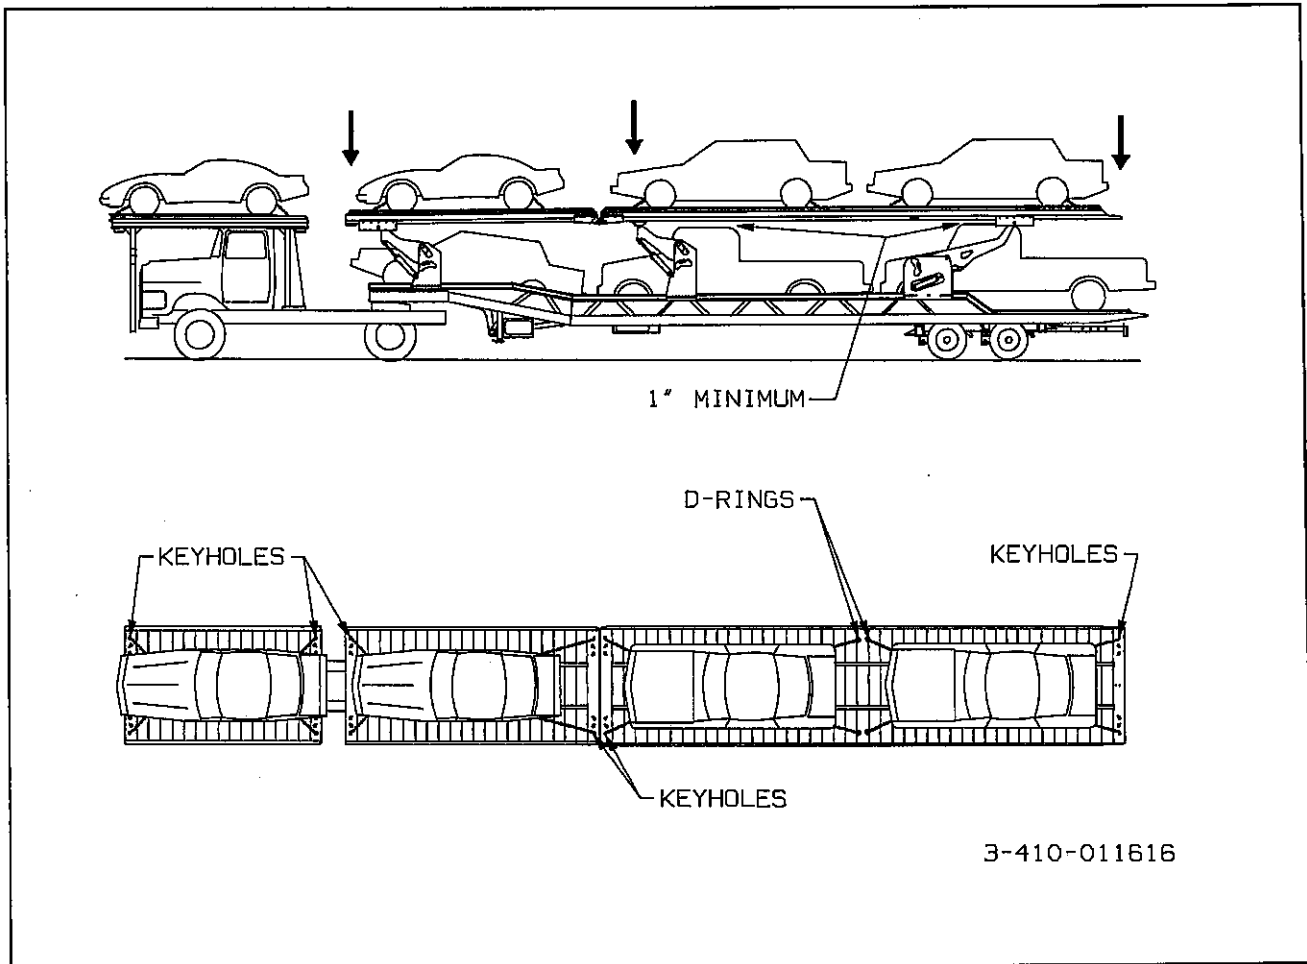

Figure 3-12 Securing the Load
m. Pull the vehicle onto the over-the-cab deck and secure with chains as shown in Figure 3-12 (see paragraph 3-11.7).
h. Lower the arms; front first, then middle, then rear, to allow a minimum clearance of 1" above the vehicles on the lower deck. (See Figure 3-12.)
- a. All vehicles must be securely tied front and rear to the deck with 5/16 HI-TEST chain. Key holes are provided in the front and rear of each deck floor to anchor and D-rings are provided in the mid section of each trailer deck for anchoring. (See Figure 3-12.)